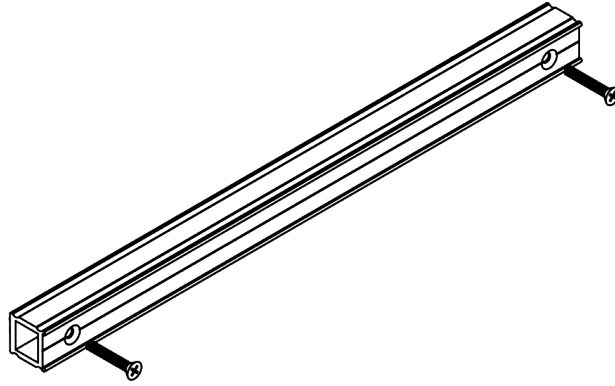

Fig.1: Install directly to wall
Three mounting options are available (See Figures 1 to 3). Adjust the mounting height accordingly for the offset on the bracket.
**(Figure 1)**